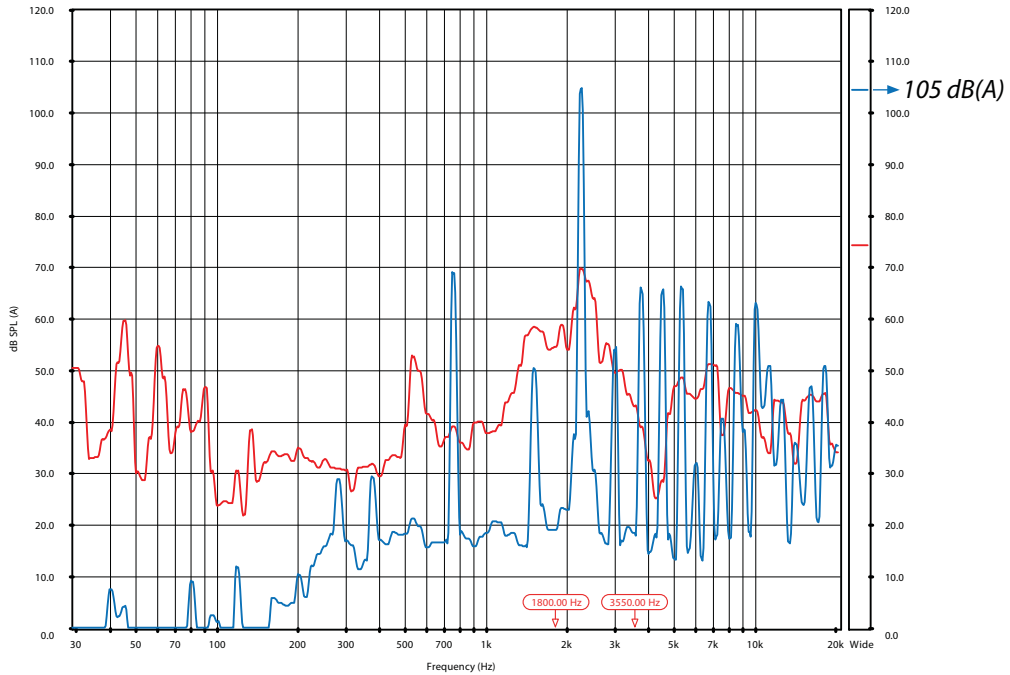

Figure 3: pink noise graph (red) and total SPL (blue)
For this challenge we use a high quality cup vibrating system with an amplification peak in the region 2000Hz to 3000Hz. The red line in figure 3 defines the pink noise graph.
The blue line in figure 3 shows the total sound pressure with a total SPL of max. 105dB(A) at 2m with the highest peak at 2260Hz (3f).